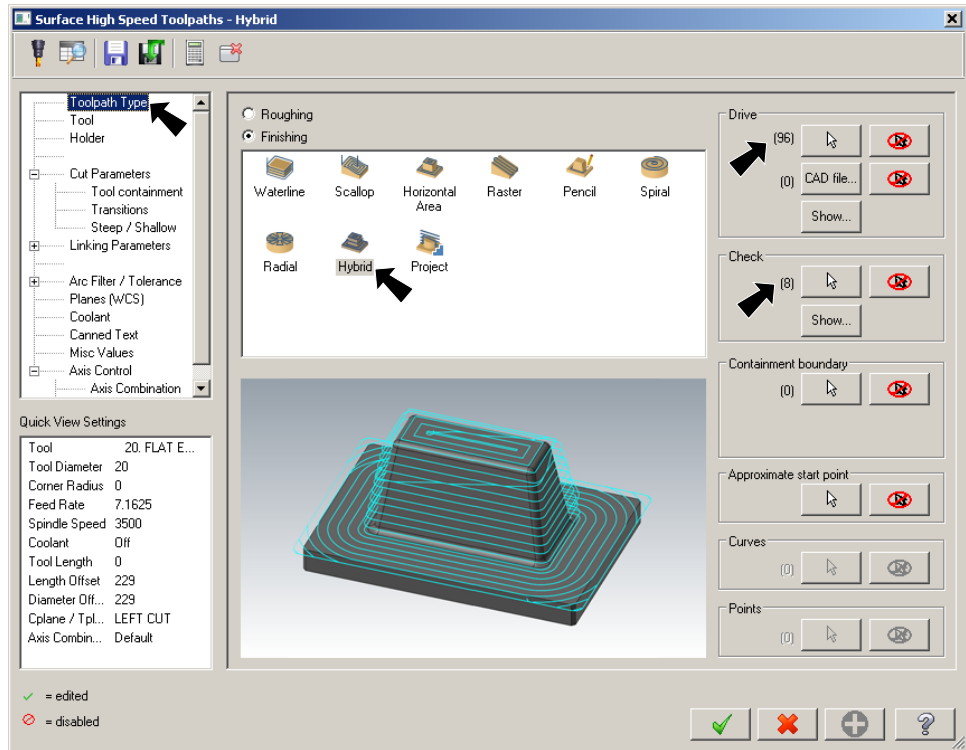

Fig. 11
Step 12. Select **Toolpath Type** from the tree control and confirm: **Hybrid tool-path Drive and Check surfaces** Fig. 11.